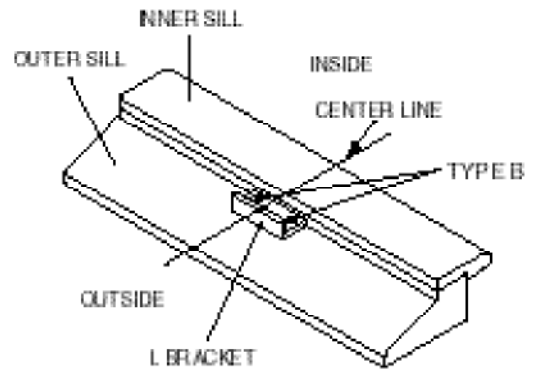

Figure 29
- Bracket helps to hold unit securely in place. Be sure to place bracket edge flush against back of inner sill. See Figure 29.
- Carefully lift the air conditioner and slide it into the open window. Make sure the notch of the bottom guide fits over the L bracket and pops into place. See Figure 29.